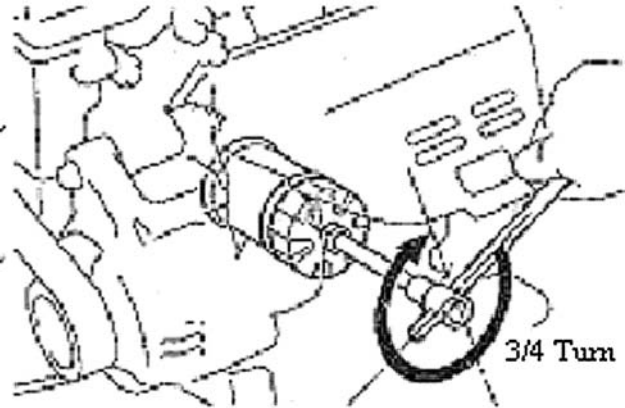

Figure 89
2. Install oil filter sub-assembly. See (Figure 89)